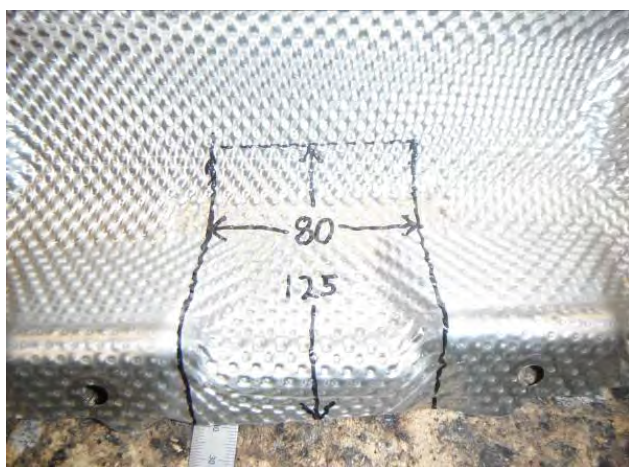

Figure 1
14. Cut out centre section of heat shield 80mm wide x 125mm in height as shown in Figure 1.